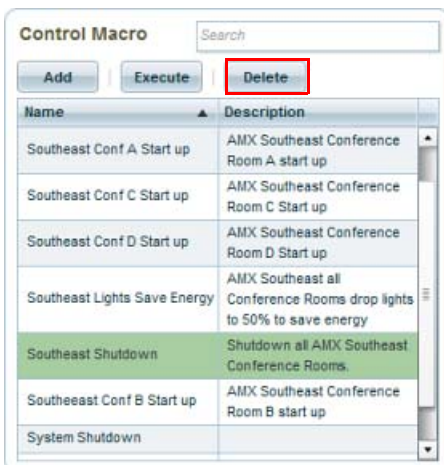

FIG. 288 Deleting Control Macro
2. Click the **Delete** button (FIG. 288).